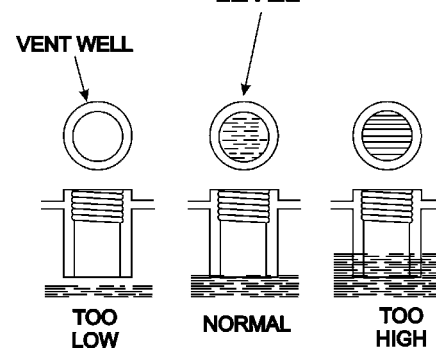

Figure 38. Battery Electrolyte Levels
- Check the battery regularly and make sure that each electrolyte level is to the bottom of the vent well (Figure 38). If necessary add only distilled water in a well-ventilated area.